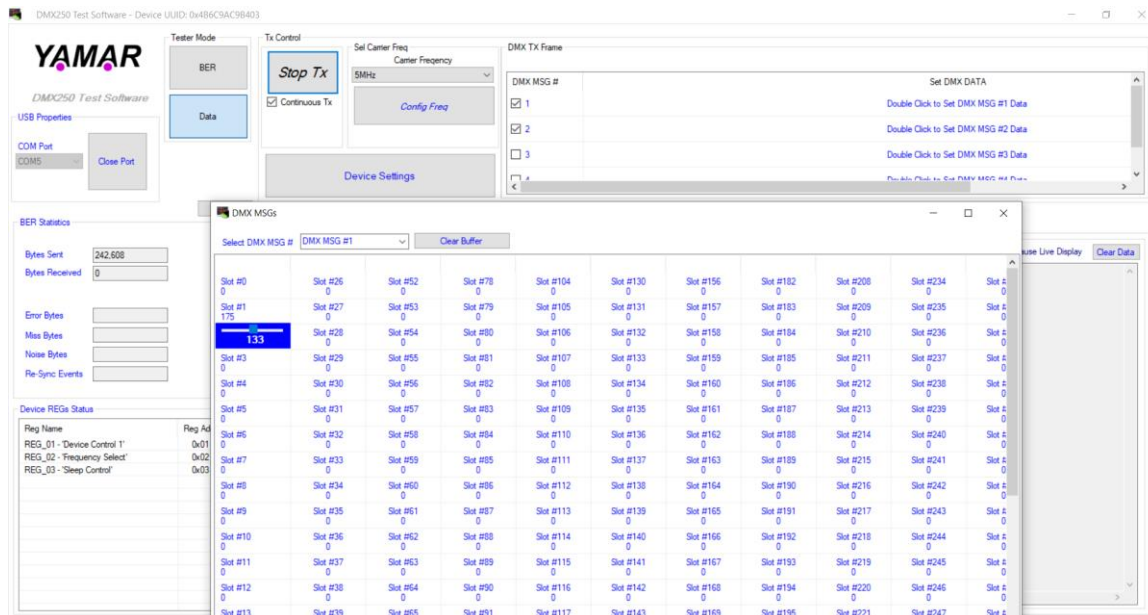

Figure 24 – DMX250 TX in action in Data mode
- To edit a DMX message, double click on the specific message line in the Table, and the DMX MSGs windows will pop-up (see Figure 24).